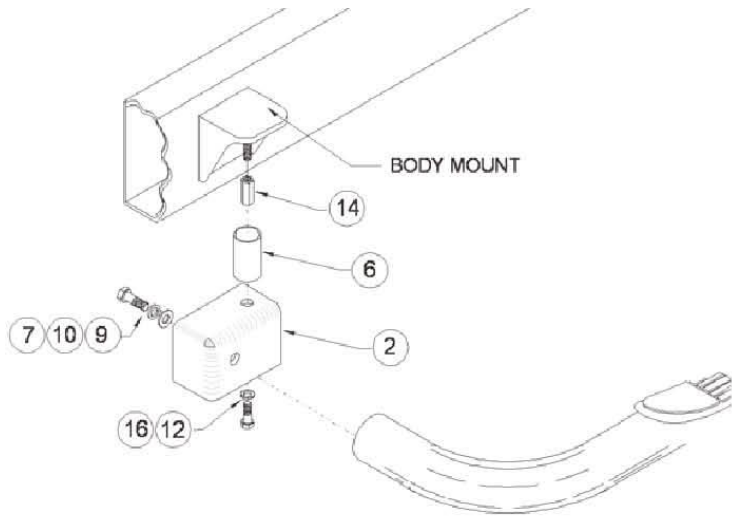

FIGURE 1 - DRIVER-FRONT
- 2 Screw 7/16-14 x 1.75" Coupling nut onto front body mount and torque to 40 Ft/lbs. Attach front bracket to body mount as shown. NOTE: Do not tighten at this time. Attach short end of step bar to front bracket. SEE FIGURE 1, 3